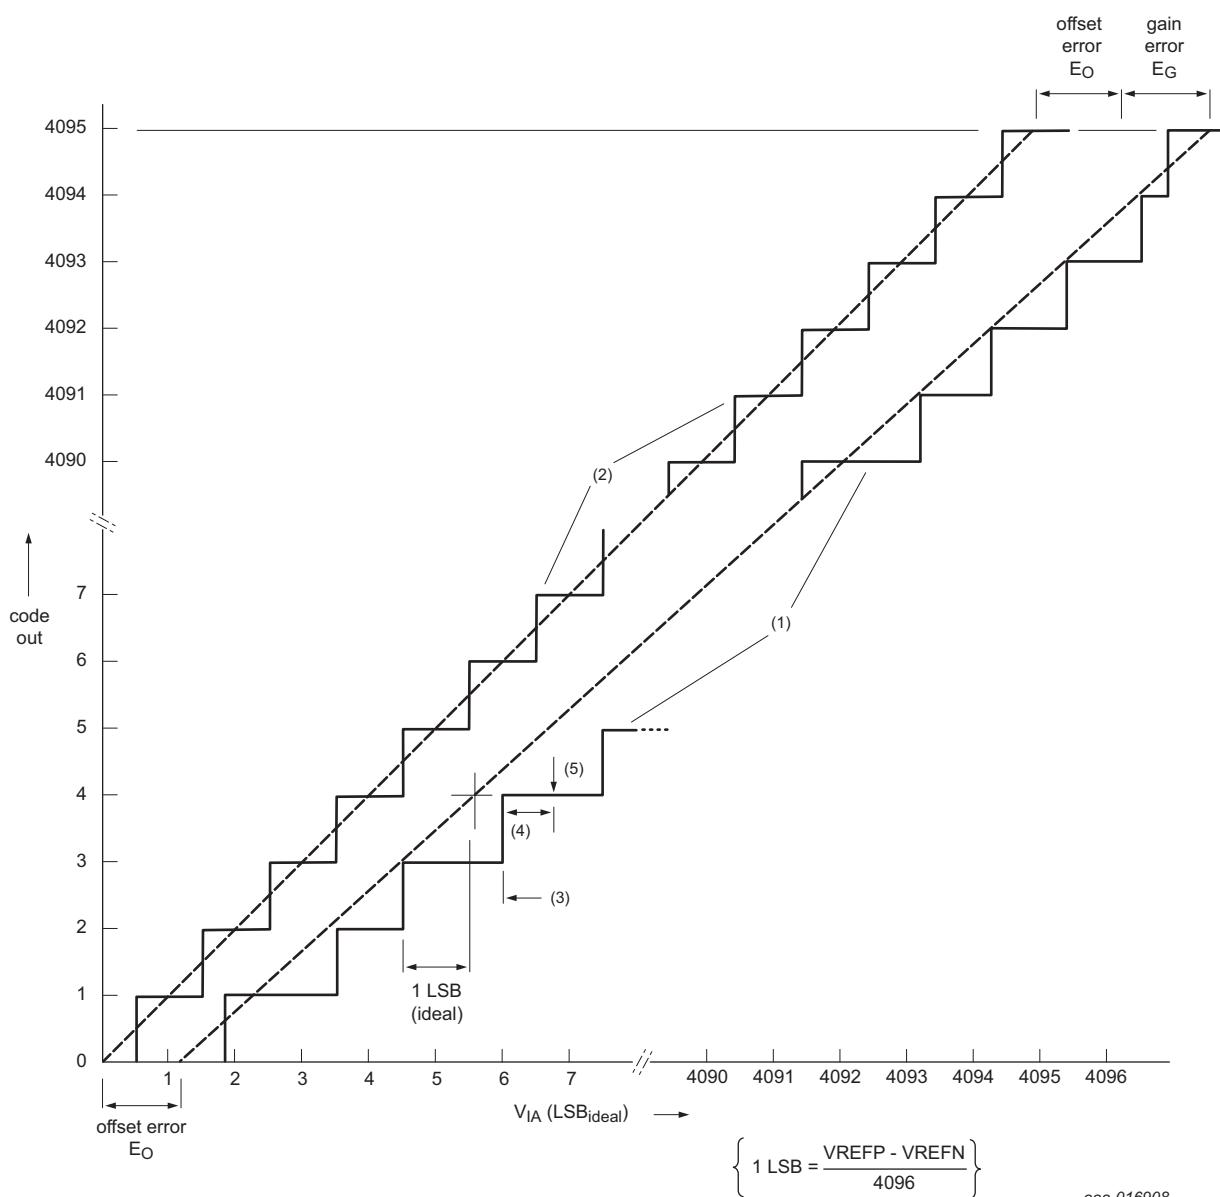

Fig 40. 12-bit ADC characteristics
- [5] The differential linearity error (E_D) is the difference between the actual step width and the ideal step width. See Figure 40.
- [6] The integral non-linearity ($E_{L(adj)}$) is the peak difference between the center of the steps of the actual and the ideal transfer curve after appropriate adjustment of gain and offset errors. See Figure 40.
- [7] The offset error (E_O) is the absolute difference between the straight line which fits the actual curve and the straight line which fits the ideal curve. See Figure 40.
- [8] The full-scale error voltage or gain error (E_G) is the difference between the straight-line fitting the actual transfer curve after removing offset error, and the straight line which fits the ideal transfer curve. See Figure 40.